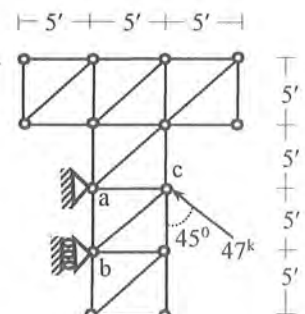

Fig.4
4. Identify zero-force members of the truss loaded as shown in Fig.4. Determine the displacements of joint *c*. Also calculate member force of member *ac*